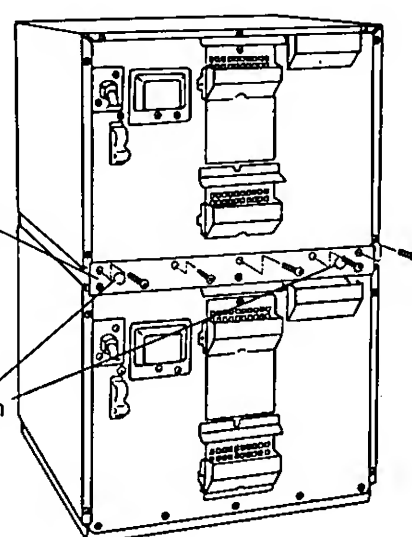

Fig. 3.
4. Carefully place the top unit on the base so as to align the five screw holes of the top unit with those of the Joint Plate. Then attach and tighten five screws. See Fig. 3.